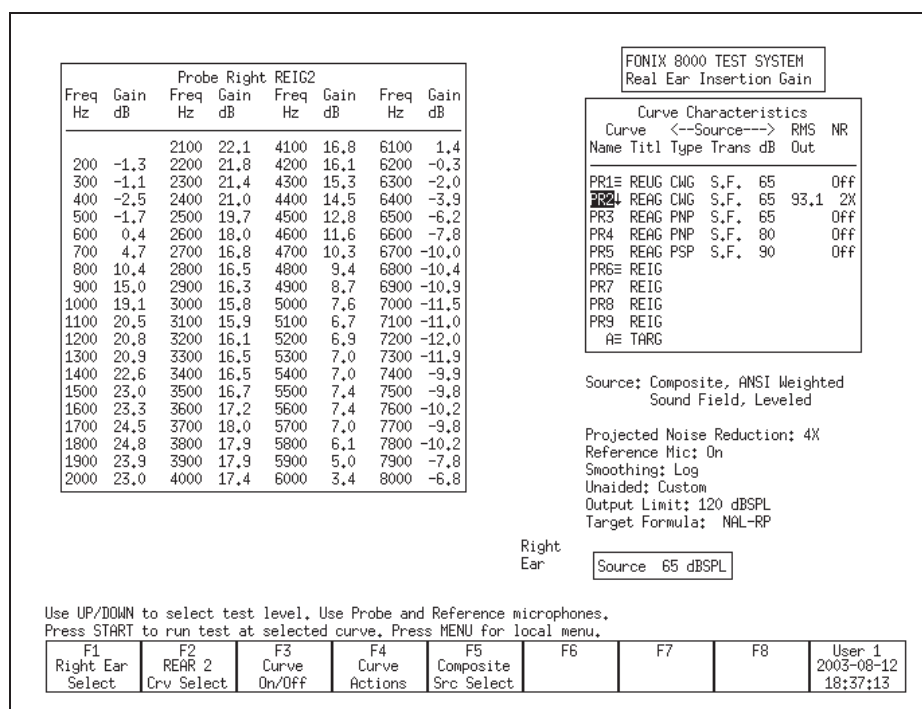

Figure 8.4.9—Insertion Gain data format display
5. Press [EXIT] to return to the Insertion Gain screen. Instead of the measurement graphs, you will now see tables of numerical data. See Figure 8.4.9.